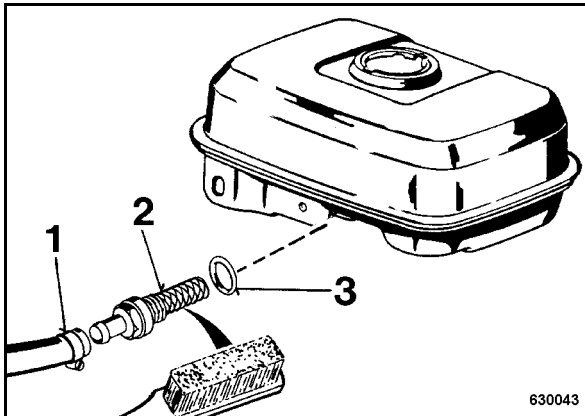

Fig. 56
- Open the hose clamp 1 (Fig. 56), pull off the hose.
- Unscrew fuel screen (2).